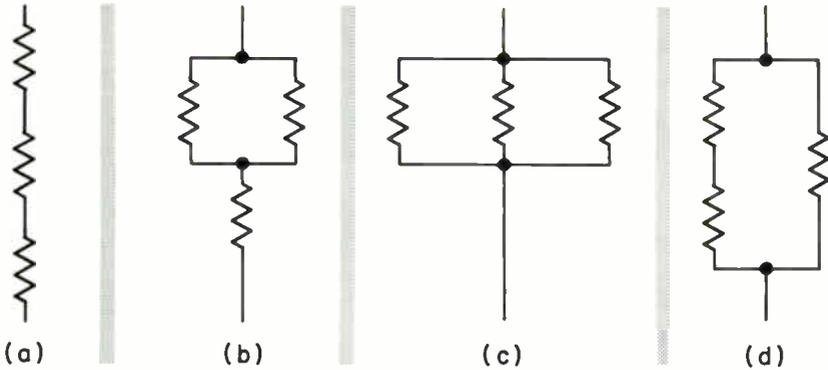

Fig. 7
3. Figure 7 shows four methods of connecting three identical resistors to get four different total resistances. Suppose that all resistors are 100 Ω . The total resistance in Fig. 7(a) is (a) _____ Ω ; in Fig. 7(b), (b) _____ Ω ; in Fig. 7(c), (c) _____ Ω ; and in Fig. 7(d), (d) _____ Ω . Therefore, to connect three resistors of equal value in such a way that the total resistance is one-third the resistance of any one of them, you'd connect them as shown in (e) _____; if one and one-half times the value of one, as shown in (f) _____; if two-thirds the value of one, as shown in (g) _____; and if three times the value of one, as shown in (h) _____.